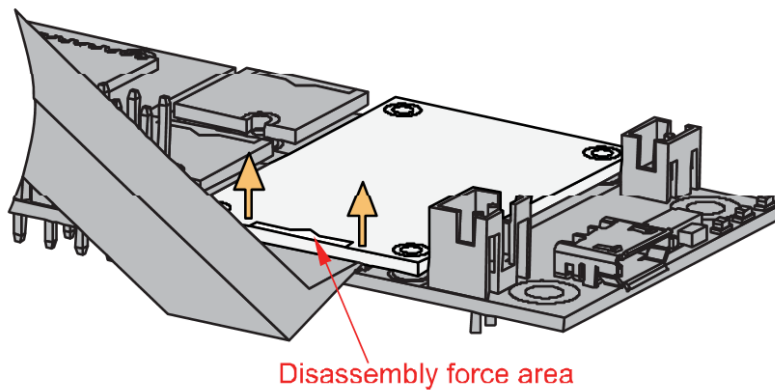

Figure 5: Applying even forces on the proper location of a WisBlock module
3. Apply force to the module at the position of the connector, as shown in **Figure 5**, to detach the module from the baseboard.